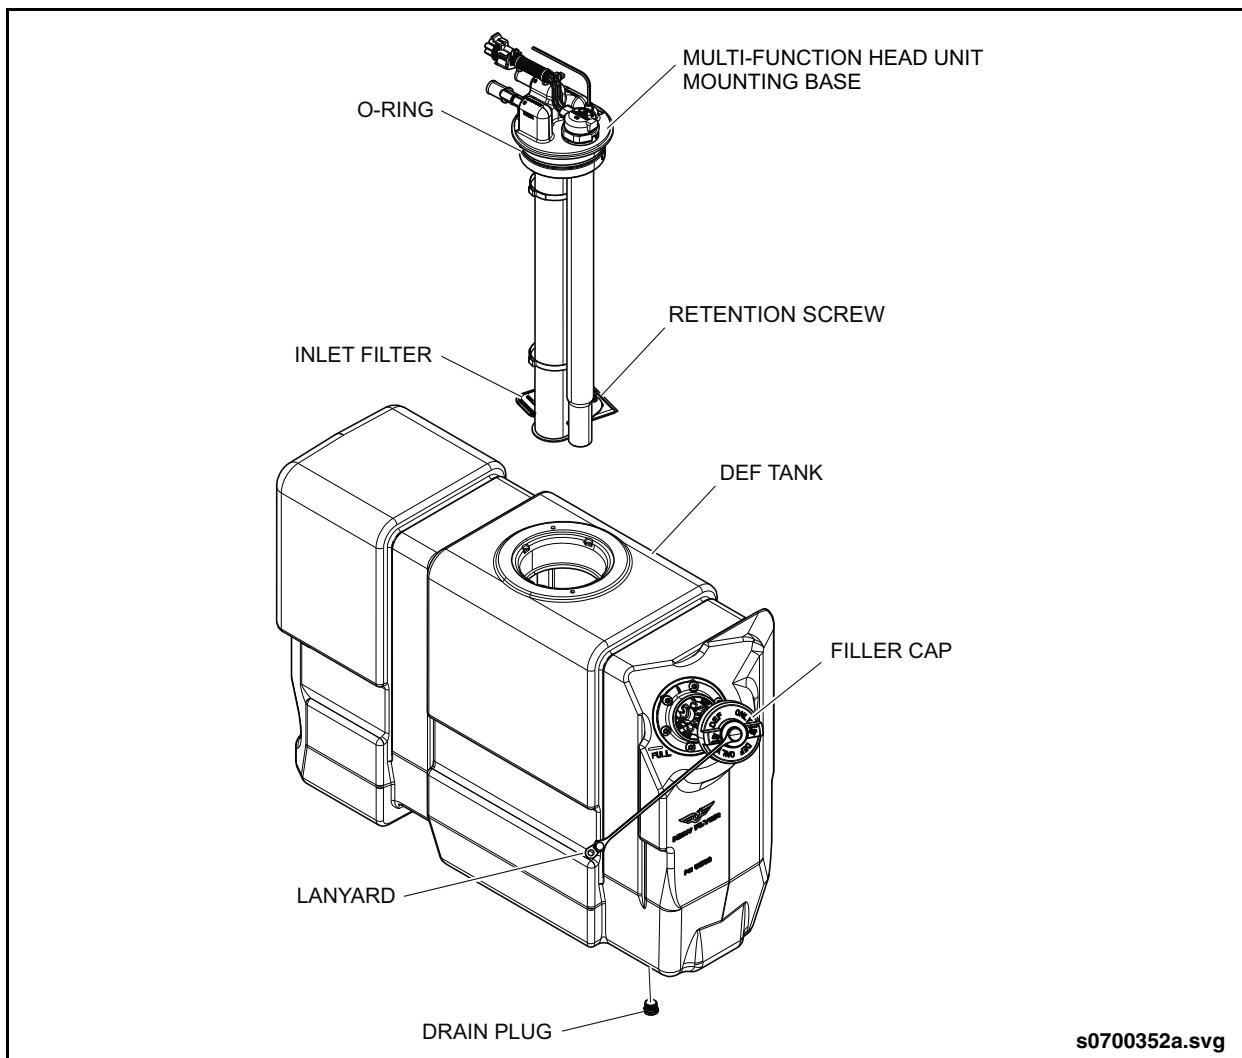

Fig. PM-45: DEF Tank Inlet Filter
2. Disconnect the electrical connectors, coolant lines, and DEF fluid lines from the multi-function head unit assembly of the DEF tank. See “Fig. PM-45: DEF Tank Inlet Filter” on page 92.